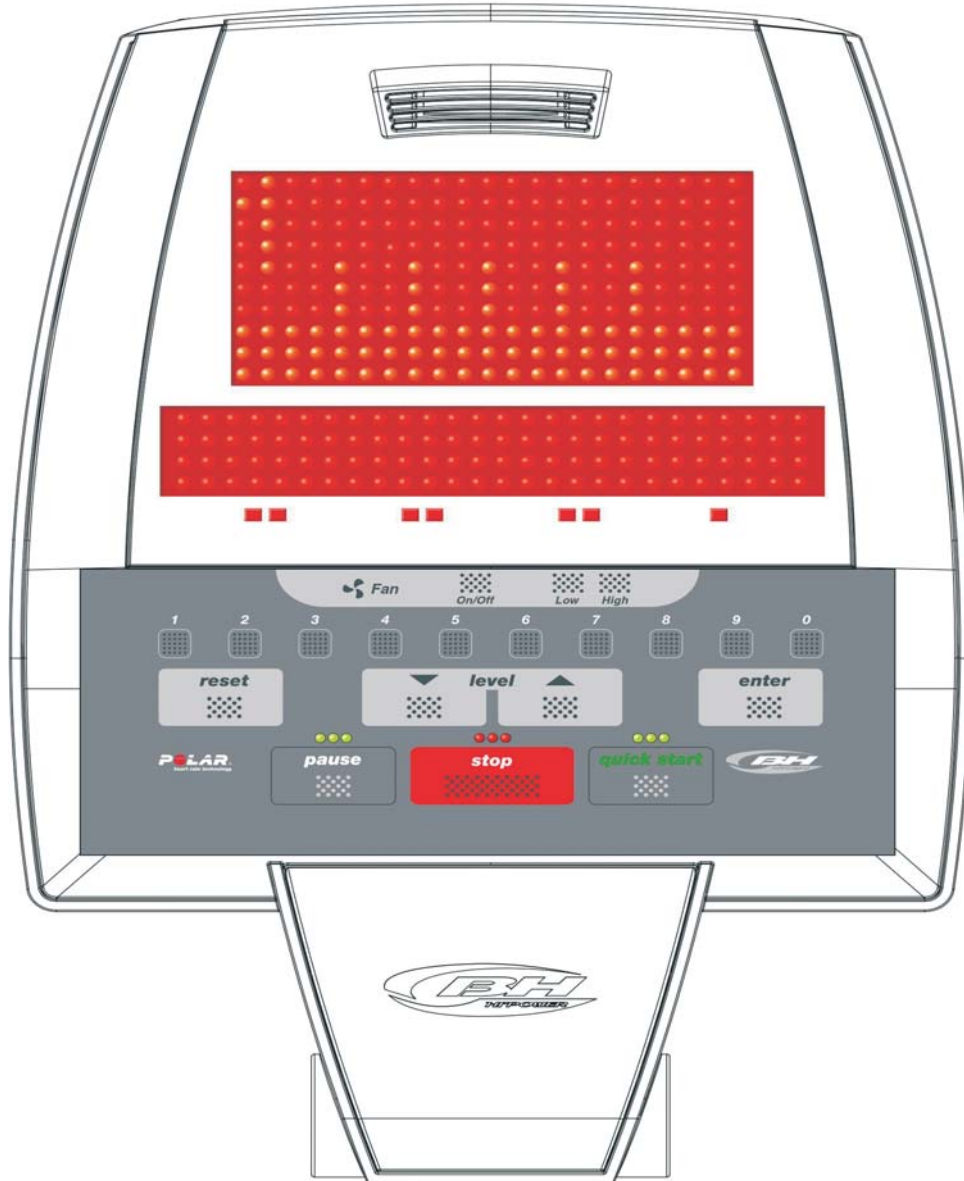

Fig 11
As soon as the monitor switches on, the words "FACTORY SETTINGS" will appear on the alphanumeric screen (B), Figure 11. Press the ENTER key and the word UNITS will appear, press the ENTER key and the word METRIC will flash, select the unit of speed by using the LEVEL▲ and LEVEL▼ keys. (METRIC / Km. -- ENGLISH / Miles) press the ENTER key and the word "UNITS" will start flashing again, using the LEVEL▲ key , move on to the (2 WHEELSIZE) setting on the adjoining bottom screen.
ELEMENTS OF THE ELECTRONIC MONITOR (Fig 11)
The monitor on this machine is fitted with an air vent (D), Fig. 11, through which a FAN provides two air speeds, LOW and HIGH. To switch the fan on while exercising press the ON / OFF key on the keypad, Fig. 13, and the fan will start. Whenever the monitor is switched to PAUSE the fan will switch off.